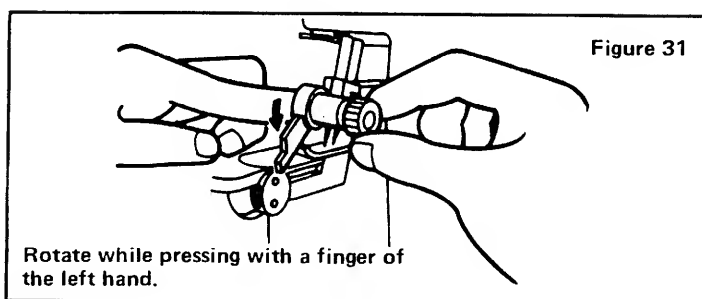

Figure 31
- (2) As shown in Figure 31, pressing the knife holder with a finger of the left hand, rotate the upper knife holder knob slightly forward with the right hand. Then release the finger of the left hand, rotate the knob until it comes to a stop with a click. The tip of the blade on the knife is then facing downward and is in the operating position. It will then be in a position to cut the cloth.